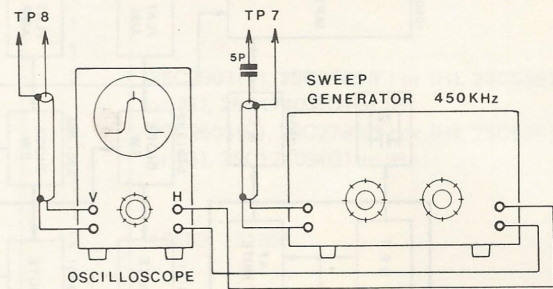

Fig. 1
- (a) Connect the output of the sweep generator to TP7, and the vertical axis input of the oscilloscope to TP8. Let the vertical axis input of the oscilloscope be AC coupling (Refer to Figs. 1 and 3).